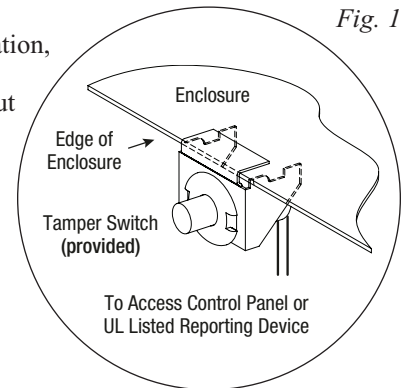

Fig. 1
3. Mount included UL Listed tamper switches (Altronix Model TS112 or equivalent) in desired location, opposite hinge. Slide the tamper switch bracket onto the edge of the enclosure approximately 2" from the right side (Fig. 1, pg. 2). Connect tamper switch wiring to the Access Control Panel input or the appropriate UL Listed reporting device. To activate alarm signal open the door of the enclosure.
5. Refer to the *eFlow Power Supply/Charger Installation Guide* for eFlow104NB, eFlow102NB and corresponding *Sub-Assembly Installation Guides* for PD8UL(CB) and ACM8(CB) for further installation instructions.